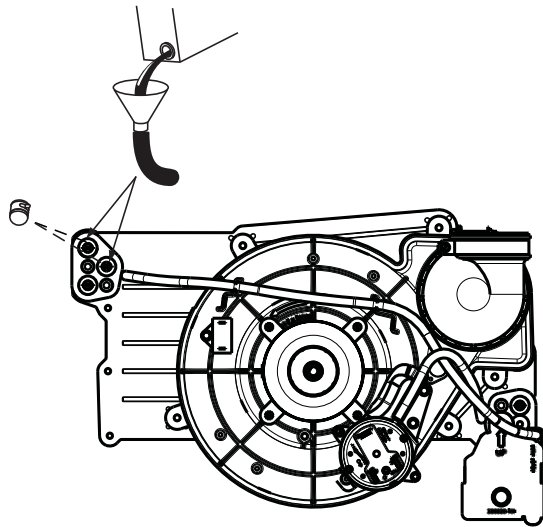

Fig. 58 - Priming Condensate Trap
1. Remove upper and middle collector box drain plugs opposite of the condensate trap. See Fig. 58.